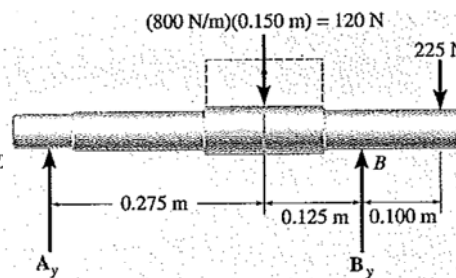

Figure 2.2
**Support Reactions.** A free-body diagram of the entire shaft is shown in Fig. 2.2. Since segment AC is to be considered, only the reaction at A has to be determined. Why?